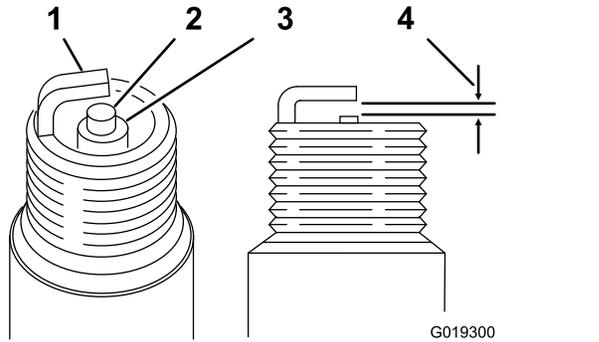

Figure 46
Air Gap: 0.70 to 0.80 mm (0.028 to 0.031 inch); refer to Figure 46.
- Set the air gap to 0.70 to 0.80 mm (0.028 to 0.031 inch) as shown in Figure 46.